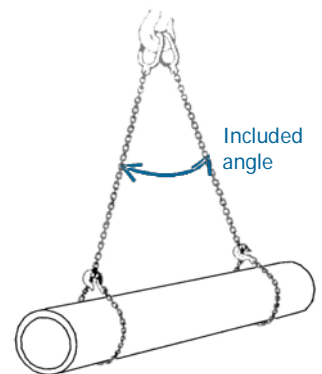

Fig. 21
7. Two Single-Leg in Choke Hitch (see Fig. 21)